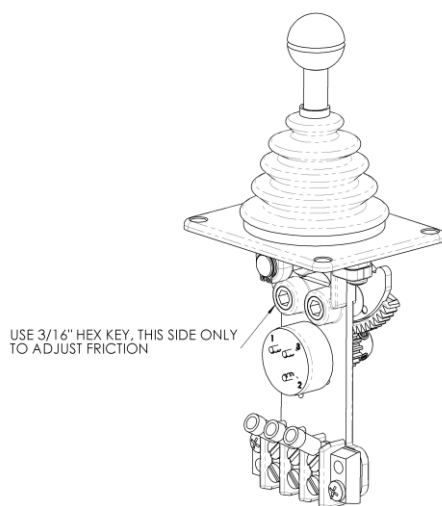

Figure 11: Adjusting friction lock, '-W' models.
2. Locate the set screw in the left most position when viewed from the head of the screw, refer to Figure 11.